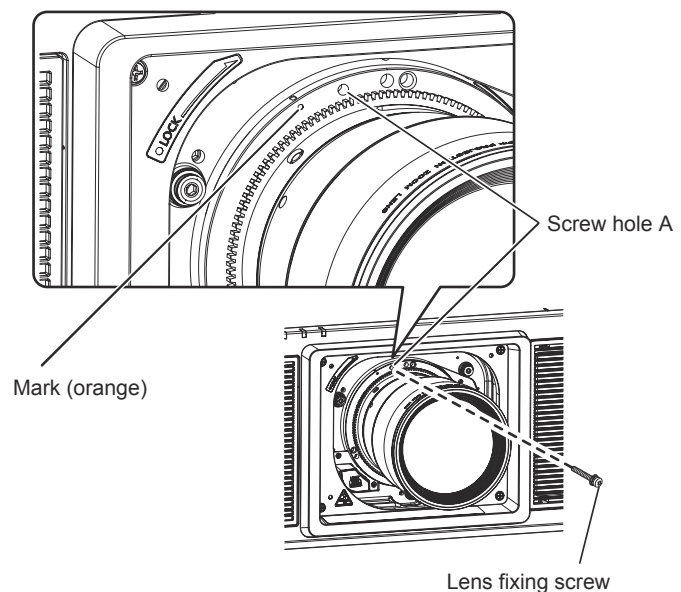

Fig. 4
- 4) **Secure the projection lens with the supplied lens fixing screw. (Fig. 4)**